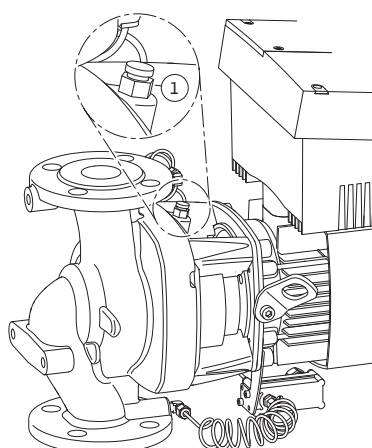

Fig. 48: Air vent valve
6. Depressurise the pump by opening the air vent valve (Fig. 48 Item 1).